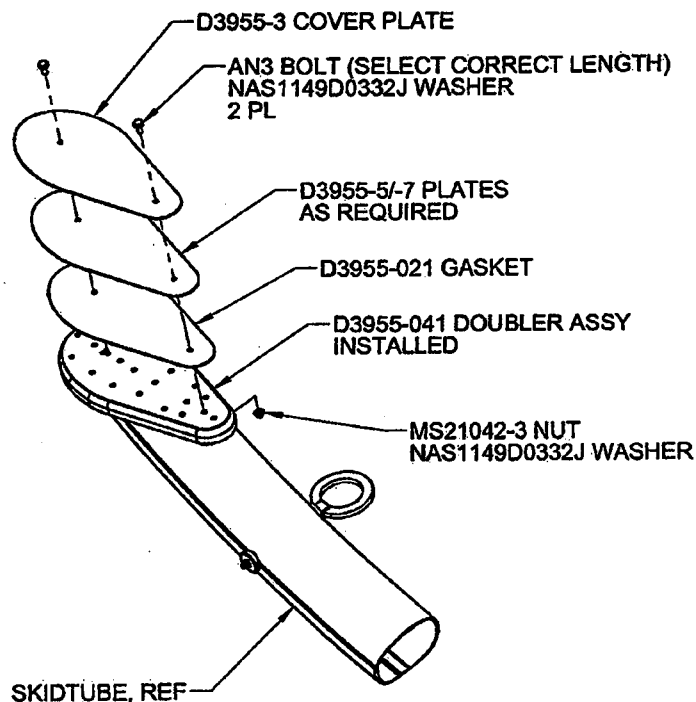

Figure 2
- 6) Install tuning plates as shown in Figure 2. Torque AN3 bolts 15-25 in-lb (1.7-2.8 N-m). Test the landing gear for vibration.